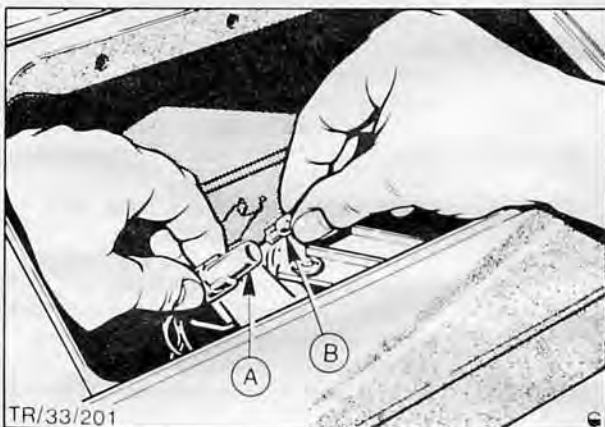

Fig. 8. Heater control light
3. Reach behind heater controls, unplug bulb and socket from heater panel and remove wedge-type bulb, Fig. 8.